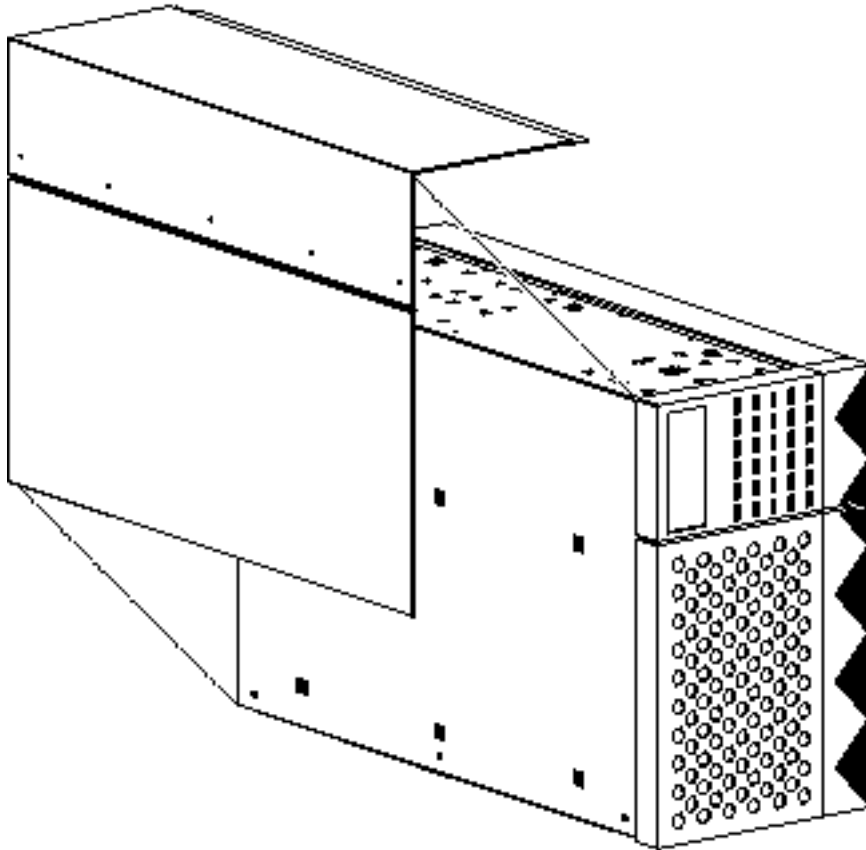

Figure 2-4 Removing the Left Outer Panel
- 2. Slide the left outer panel toward the rear of the Netra 150 server until it stops, then tilt the panel out until it is clear of the chassis (Figure 2-4).**